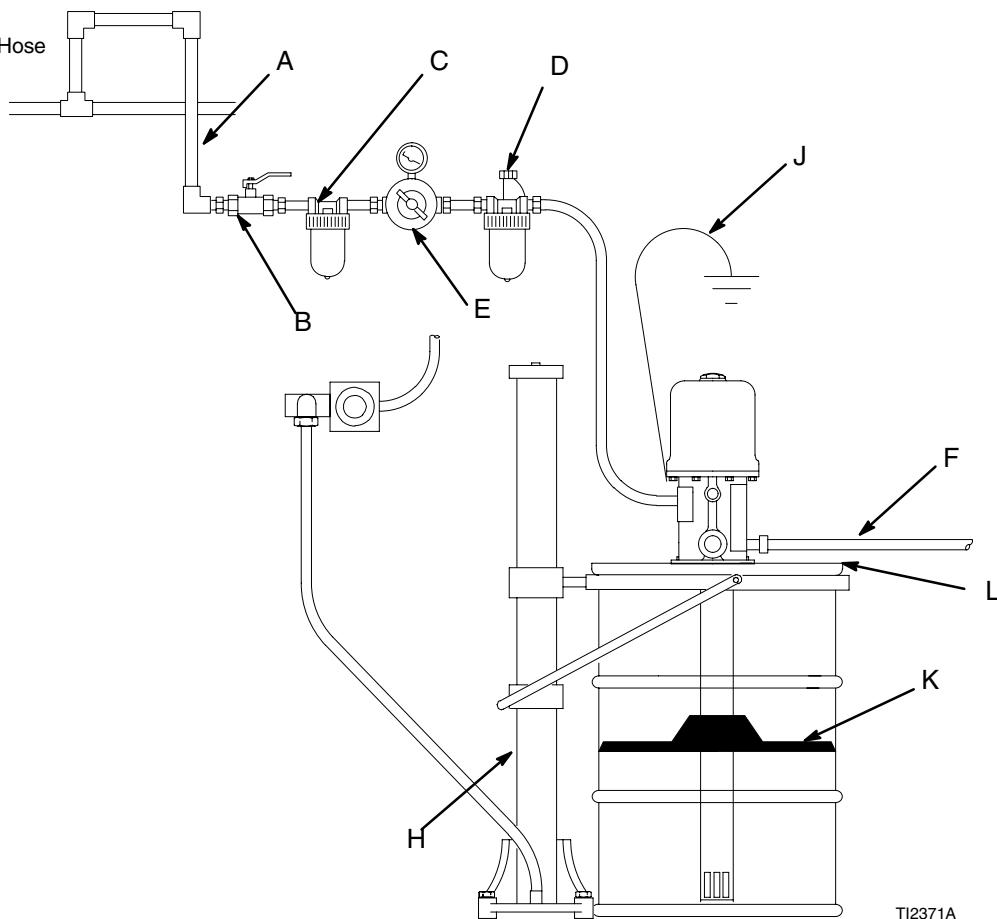

Fig. 2
Use the air regulator (E) to control the pump speed and fluid pressure. See Fig. 2. Always use the lowest pressure necessary to obtain the desired results.